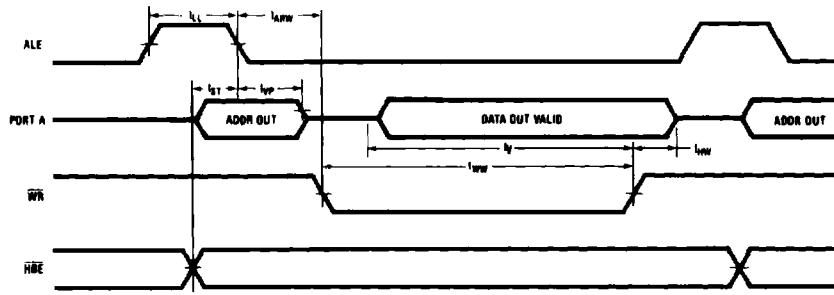

FIGURE 2. CPU and DMA Write Cycles
**CPU Write Cycle Timing** (See Figure 2)
**DMA Write Cycle Timing**  $t_C = 20$  MHz (See Figure 2)